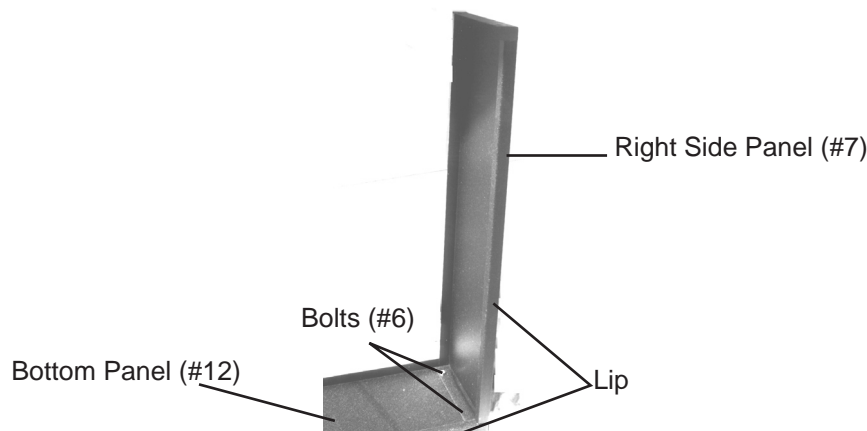

Figure 1-Attaching Bottom Panel to Right Side Panel
1. Lay out the Bottom Panel (part #12) on your work area with the Lip facing toward what will be the front of the Hanging Tool Cabinet. Attach the Right Side Panel (#7) to the Bottom Panel (#12) making certain that the lip faces the front of the Hanging Cabinet. The lip should line up with the lip of the Bottom Panel (#12)-see Figure 1. Insert two (2) Bolts (#6) up through the Bottom Panel (#12) then thread the Nut (#5) onto the Bolt (#6). Repeat for the Left Side Panel (#16).